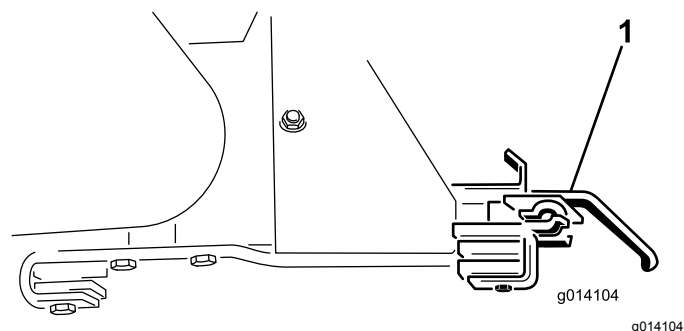

Figure 59
18. Remove the 2 option attachment brackets (Figure 59).